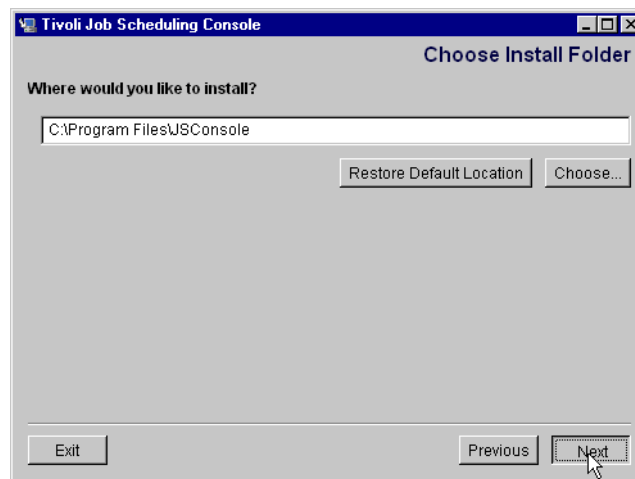

Figure 56. Choose Install folder
8. Next, you need to choose the install folder as shown in Figure 56.